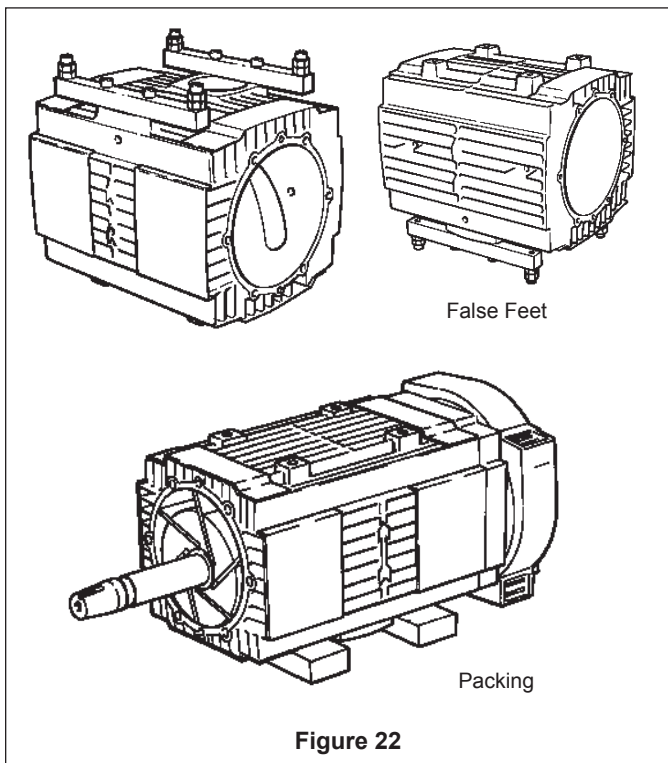

Figure 22
IMPORTANT NOTE: Once the cover and fan is removed ("Blade Inspection" steps 2 through 4) the blower should be turned upside-down (mounting feet up) before continuing with steps 5 through 8. The blower can be supported on a pair of false feet (see Parts List) or rested on packing placed on either side of the flanges so that the sideplates are clear of the bench and the machine is well supported. See Figure 22.
1. Stand body, flanges down, on packing at least 1 inch (25mm) thick. Alternatively, use false feet and fix these to the flange ports as shown in Figure 22. Then turn body over.